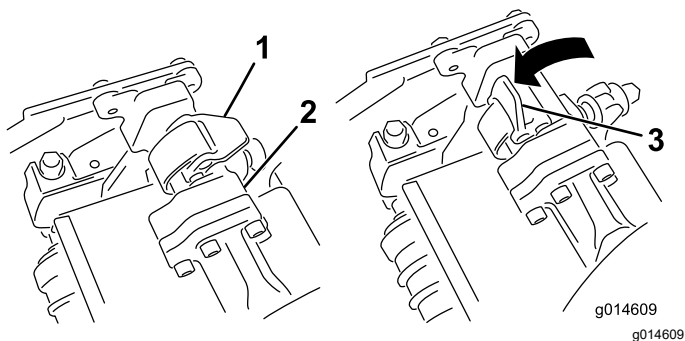
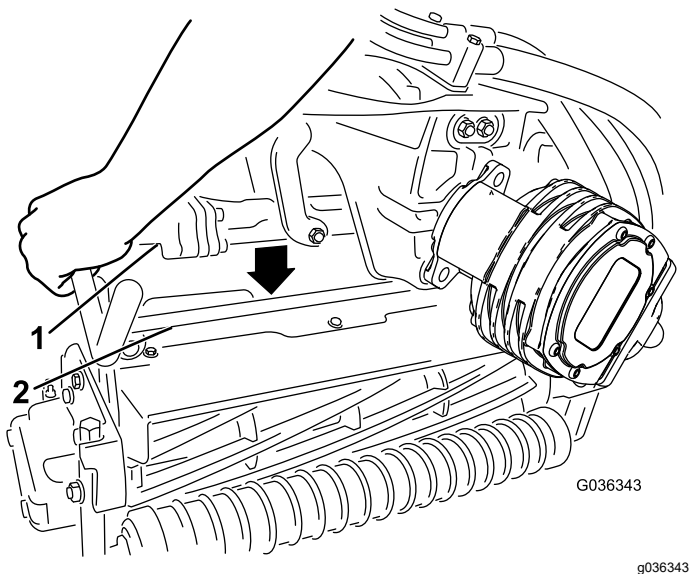

Figure 53
Figure 54
4. With the latches on the suspension-arm bar pointing up (i.e., open) (Figure 53), push the suspension arm down so that the bar fits over the bar across the top of the cutting unit (Figure 54).
5. Close the latches down and around the cutting-unit bar and lock them in place (Figure 53).
5. Open the latches on the suspension-arm bar of the cutting unit you are removing (Figure 53).